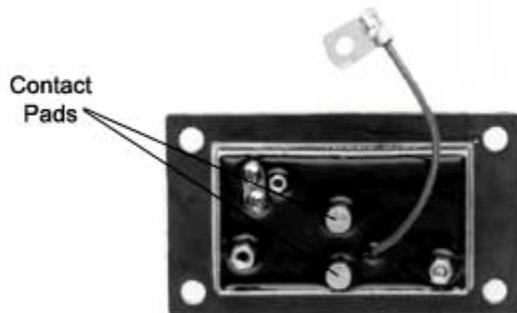

Figure 3
2. Remove regulator from holder far enough to expose the two contact pads. If corrosion or dirt is found, then clean contact pads with #600 (or finer) grade sand paper (Figure 3).